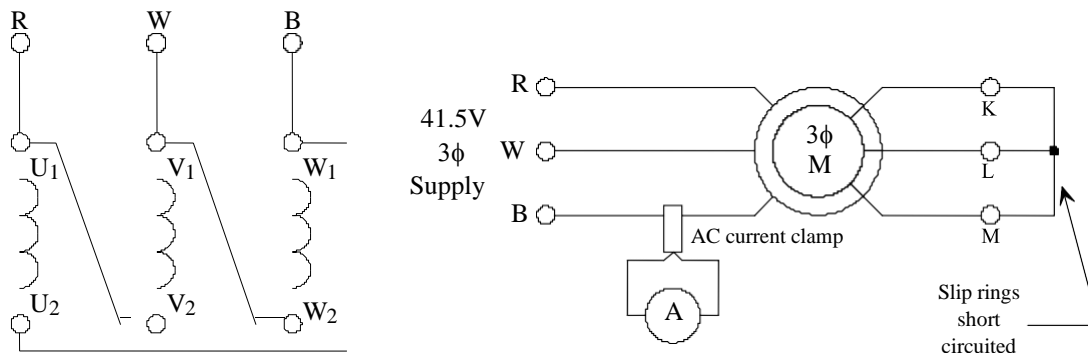

Figure 2
1. Connect the motor as shown in figure 2, with the slip-rings short circuited.